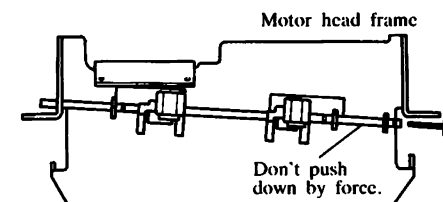

Fig. 26
- (2) Move the Sensor guide bar to the left so that the right end of the sensor guide bar comes off the frame. Then pull the Sensor guide bar out. (Refer to Fig. 26)